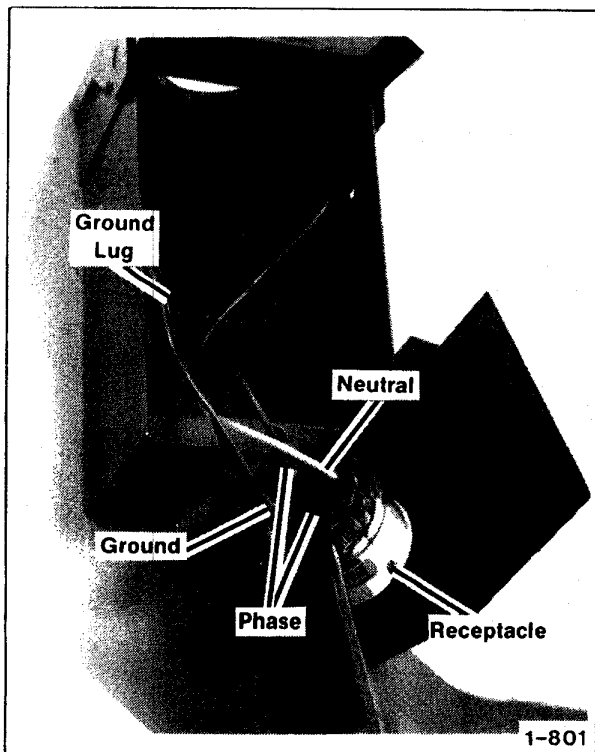

Figure 2-3. Receptacle and Box
4. Make continuity checks on neutral, ground, and phase wires. Connect white neutral wire to cabinet neutral bar and ground wire to cabinet ground. Connect phase wires to X and Y receptacle terminals. See Figure 2-3. Assemble receptacle plate to cabinet.